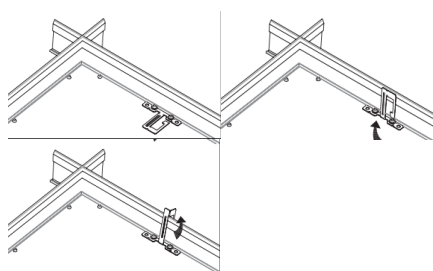

Figure 4
6. Grid clips are provided for additional retention to ceiling system. Orient 4 tabs on back of fixture over T-GRID by bending tabs up 90 degrees perpendicular to back of fixture. Next bend tabs 90 degrees towards T-GRID frame (Fig. 4)